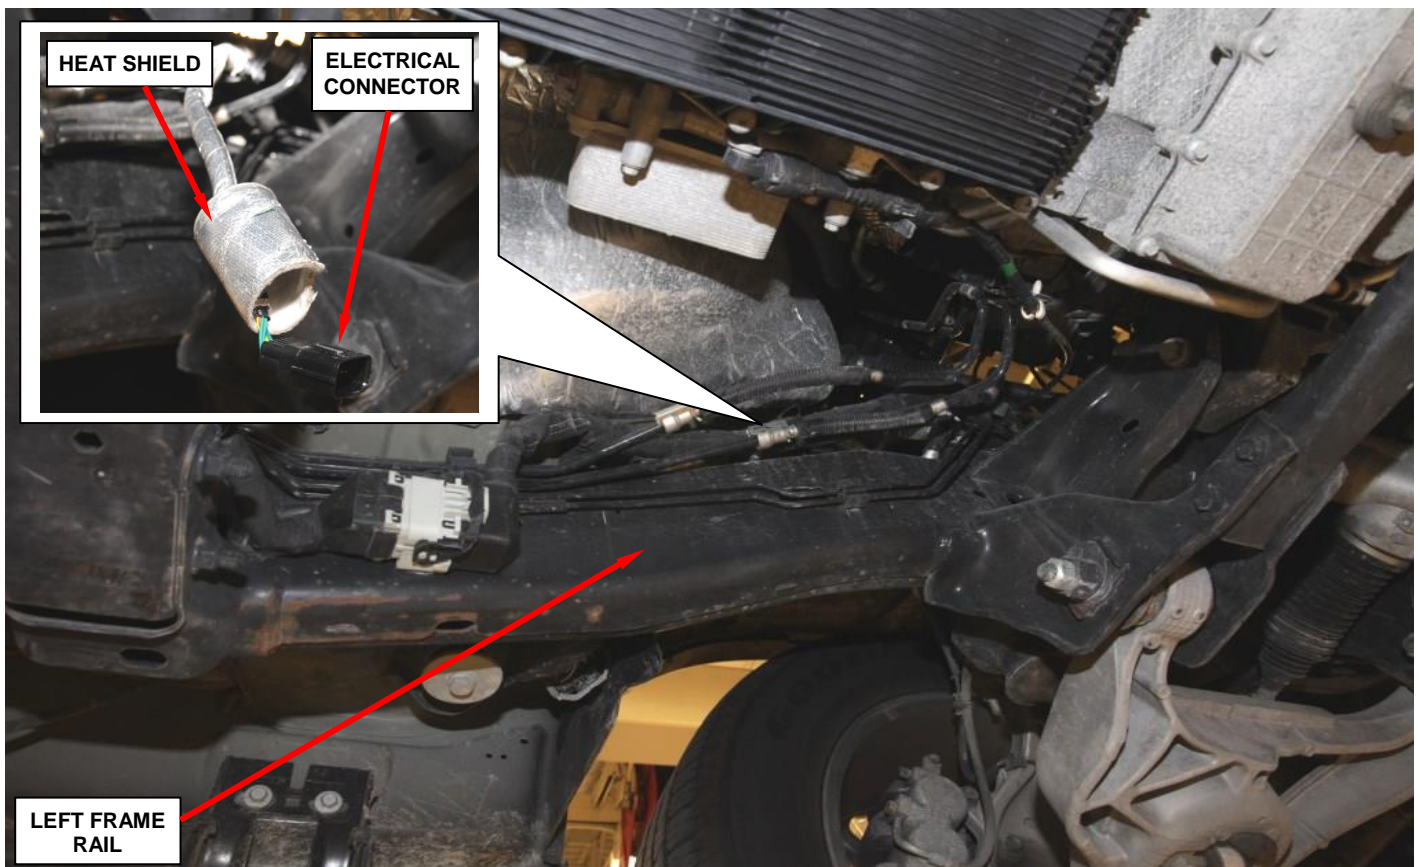

Figure 8 – Fuel Pump Electrical Connector
19. Disconnect the fuel pump electrical connector at the frame rail (Figure 8).
41. Transfer the fuel pump electrical connector heat shield from the original battery wire harness to the new battery wire harness (Figure 8).
42. Connect the fuel pump electrical connector at the frame rail (Figure 8).